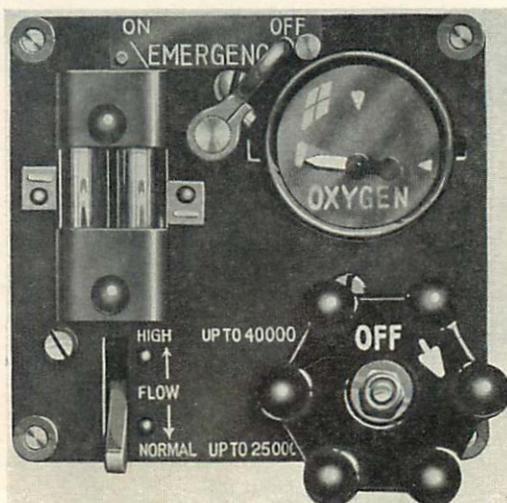

Fig. 7. Oxygen Regulator of the Mk. 11 Series.
13. Mk. 11 series regulators (Fig. 7) are designed to supply either one man (Mk. 11C) or